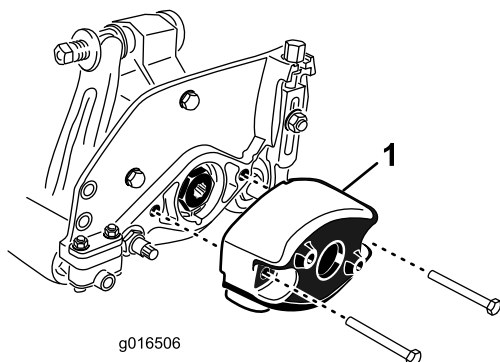

Figure 9
1. Remove the 2 bolts securing the counter weight to the left end of the cutting unit. Remove the counter weight (Figure 9).
5. On the right end of the cutting unit, apply a light coating of oil to the O-ring and install the counter weight with the bolts previously removed (Figure 9). Torque the screws to 16–20 N-m (12–15 ft-lb).